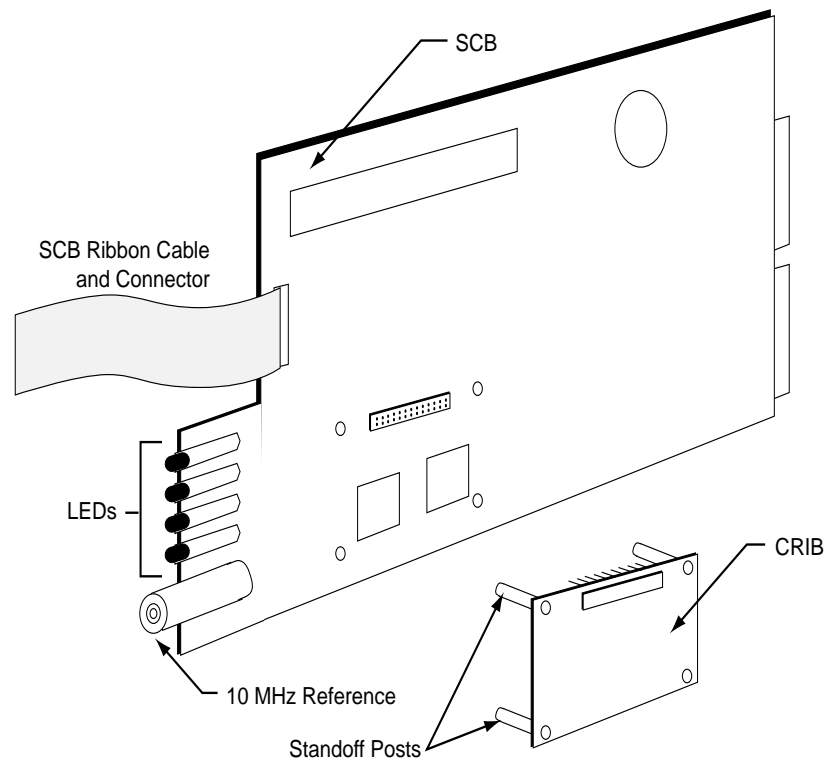

Figure D-6: Location of the Standoffs on the CRIB for an SCB
6. In the package, locate the CRIB standoffs. Pinch each standoff and insert it into one of four standoff holes in the CRIB (see Figure D-6).